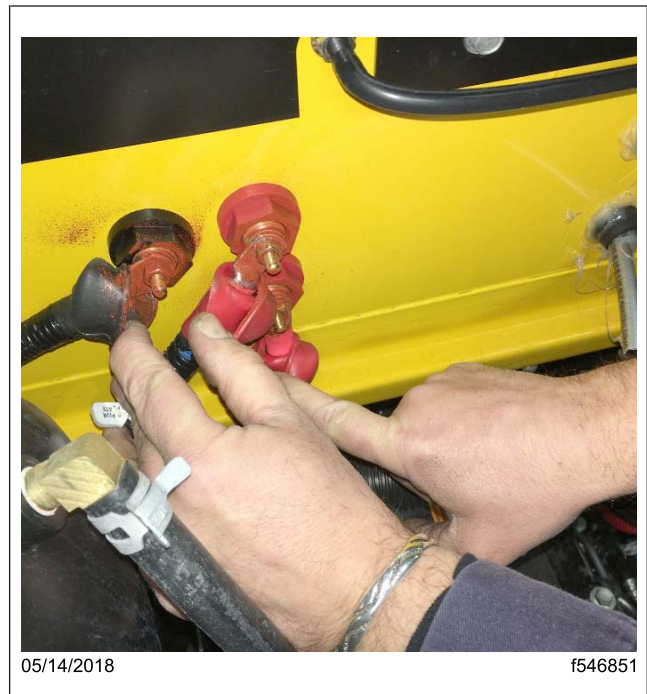
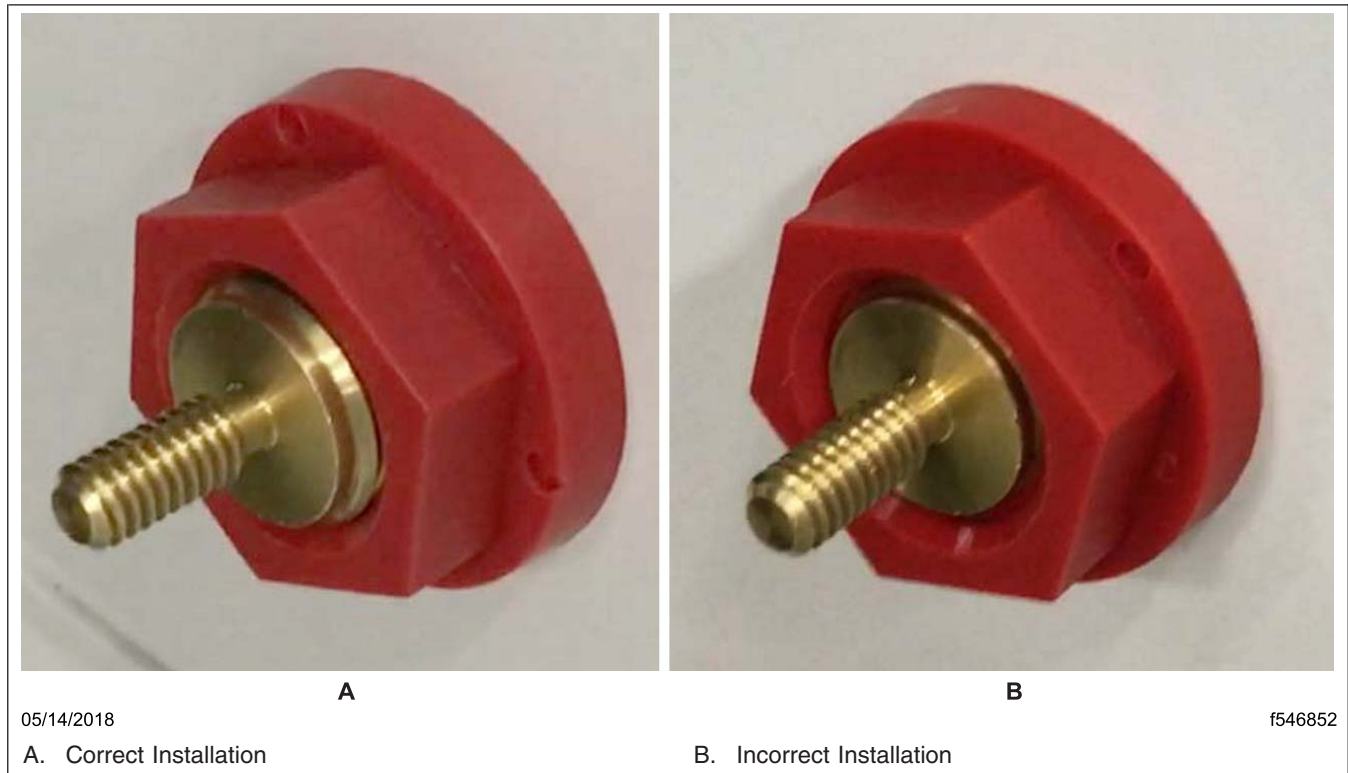
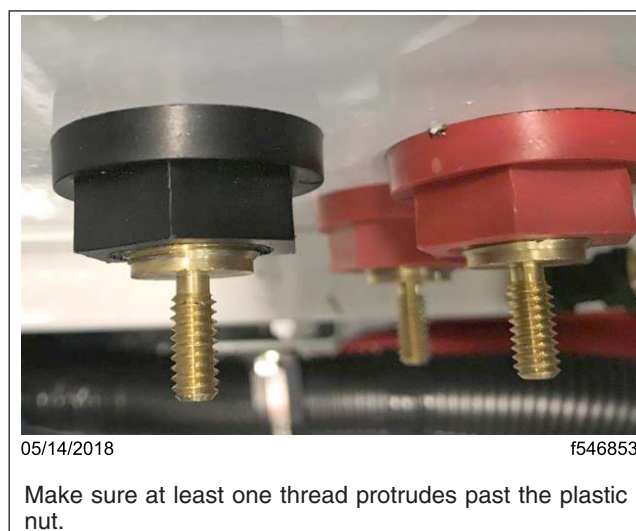

Fig. 2, Removing Connector Protective Cover
Fig. 3, Installation Inspection
Fig. 4, Correctly Installed Pass-Through
4. Pull back the covers on the battery bulkhead connectors. See Fig. 2. Inspect the bulkhead studs to make sure at least one thread protrudes past the plastic nut. See Fig. 3 and Fig. 4.